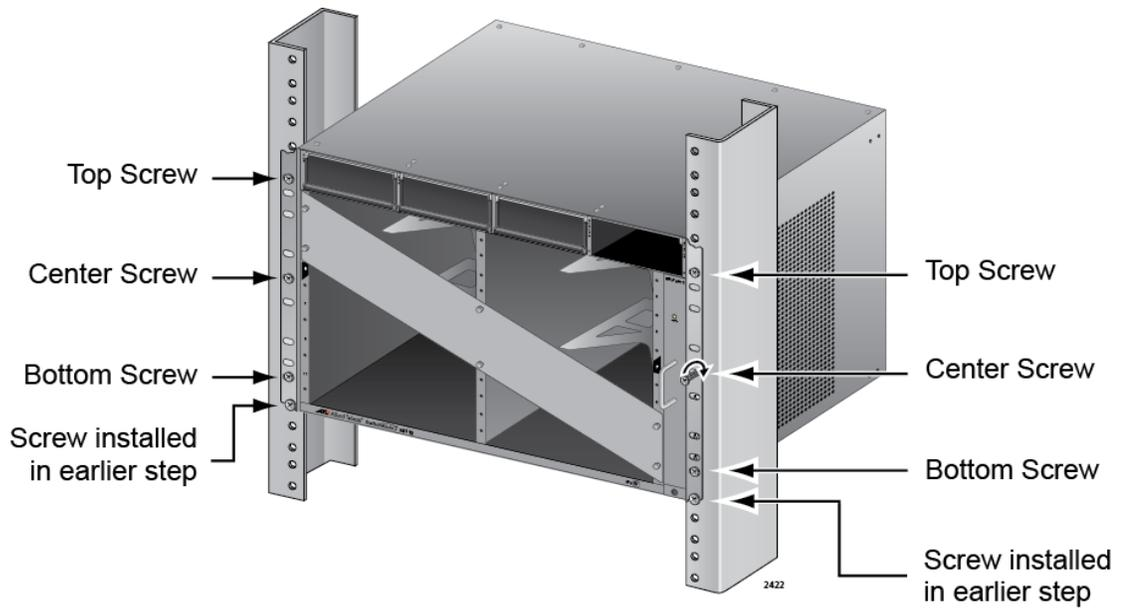

Figure 39. Installing the Rack Mount Screws
4. Install six rack mount screws (not provided) to secure the chassis to the equipment rack, as shown in Figure 39 on page 104.